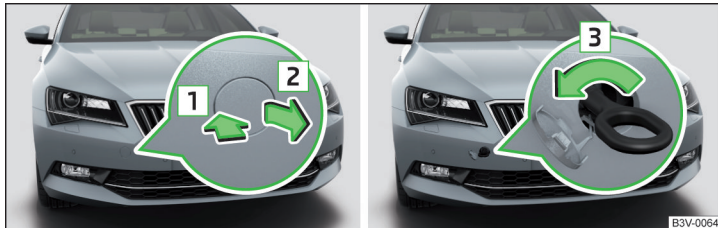

Fig. 340 Remove cap / install towing eye
- › To **remove**, press on the cap in the direction of the arrow **1** and remove this in the direction of arrow **2** » Fig. 340.
- › To **install**, screw in the towing eye by hand in the direction of arrow **3** » Fig. 340 until the stop » **!**